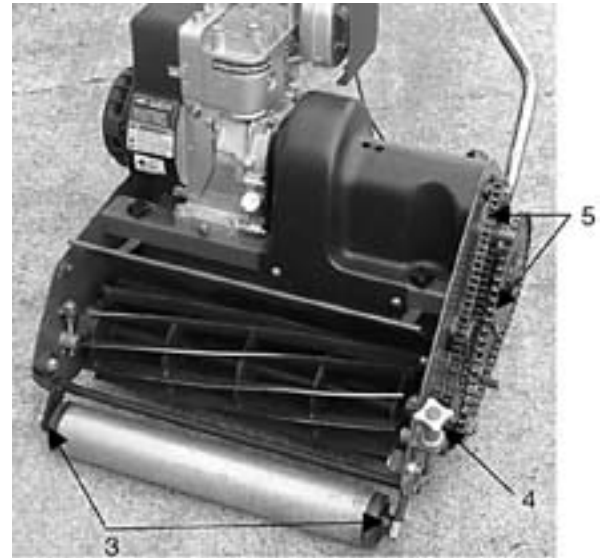

Figure 14. Lubrication points
3. Front roller (3) - apply six drops of oil to each side of the shaft. Figure 14.
4. Height adjustment knob (4) - remove the plastic cover plug to gain access, and apply six drops of oil. Figure 14.
5. Drive chains (5) - every 10 hours of operation remove the chain case side cover and apply a 'chain oil' to the drive chains. Replace side cover. Figure 14.